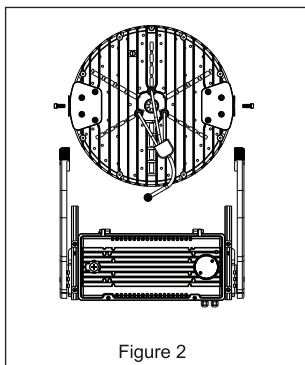

Figure 2
3. Attach the LED array to the mount using the bolts removed in the previous step. **See Figure 2.**